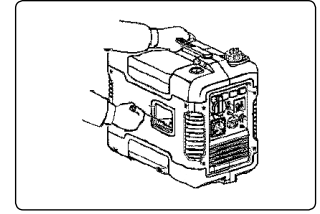

fig.10
6.3.6. Grasp the carrying handle firmly to prevent the generator from falling over. Pull slowly on the recoil starter until it is engaged, then pull it briskly fig.10.